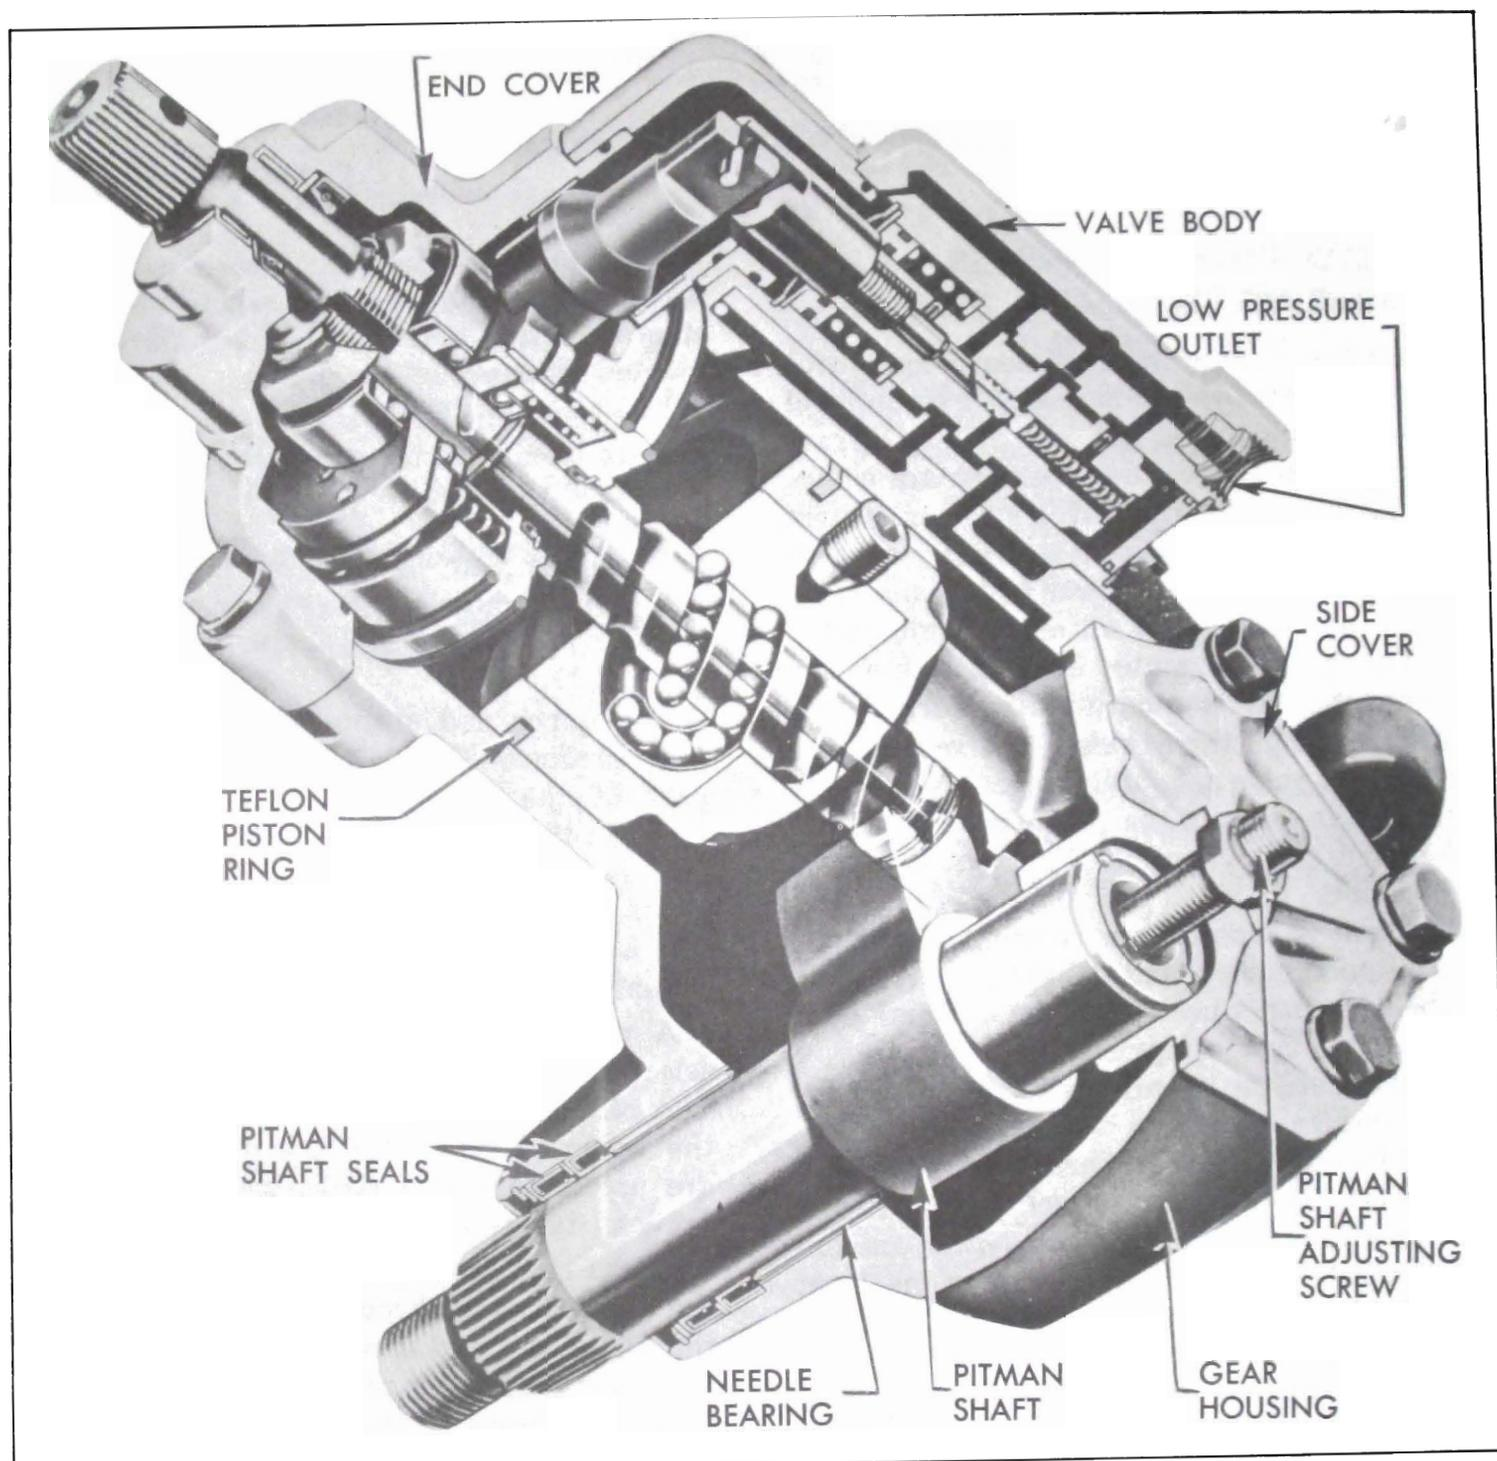

Figure 8-11—Power Steering Gear Assembly
The upper end of the pitman shaft has a gear section meshing with a rack which is a part of the power piston. This rack-piston slides in the gear housing which is cylindrical. The rack-piston assembly consists of power piston and rack with a Teflon piston ring and also a ball nut locked rigidly in place with a retaining screw. See figure 8-11.
and three-quarters ($2\frac{3}{4}$) to six (6) pounds so that this effort is proportional to the force necessary to turn the front wheels, thereby providing the "feel" of steering previously mentioned. See Figure 8-11.